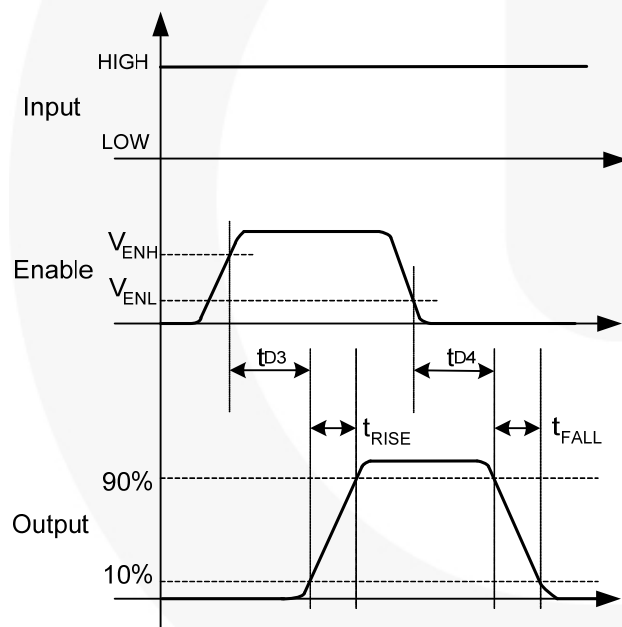
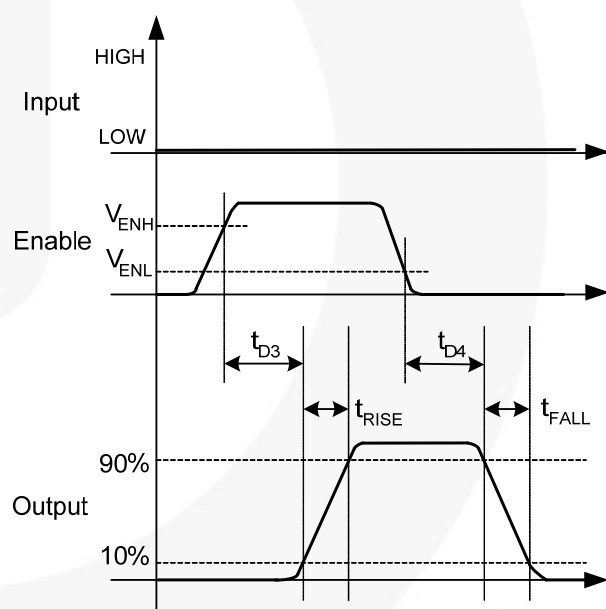

Figure 10. Non-Inverting (IN HIGH)
Figure 11. Inverting (IN LOW)
12. See Timing Diagrams of Figure 10 and Figure 11.